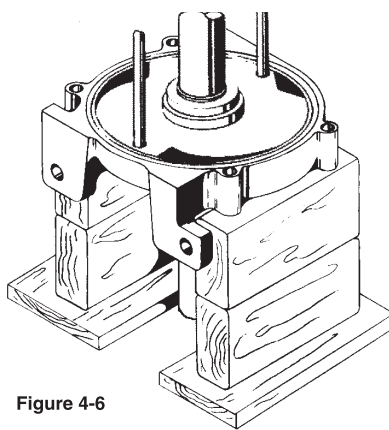

Figure 4-6
6. For the remaining operations, it is recommended that the assembly be placed on blocks in a vertical position with the coupling end of the shaft facing downward.(refer to figure 4-6)